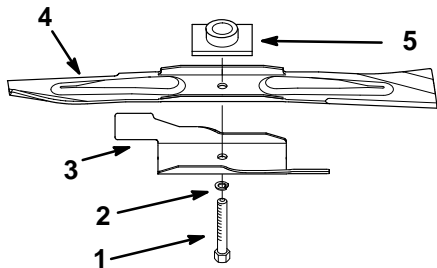

Figure 19
2. Remove the blade bolt, lockwasher, blade accelerator, and blade (Fig. 19).
1. Position the blade onto the spindle and blade driver, with the curved blade tips pointing toward the mower and the blade driver nesting in the recess of the blade (Fig. 19).
2. Install the accelerator, lock washer, and blade bolt (Fig. 19).